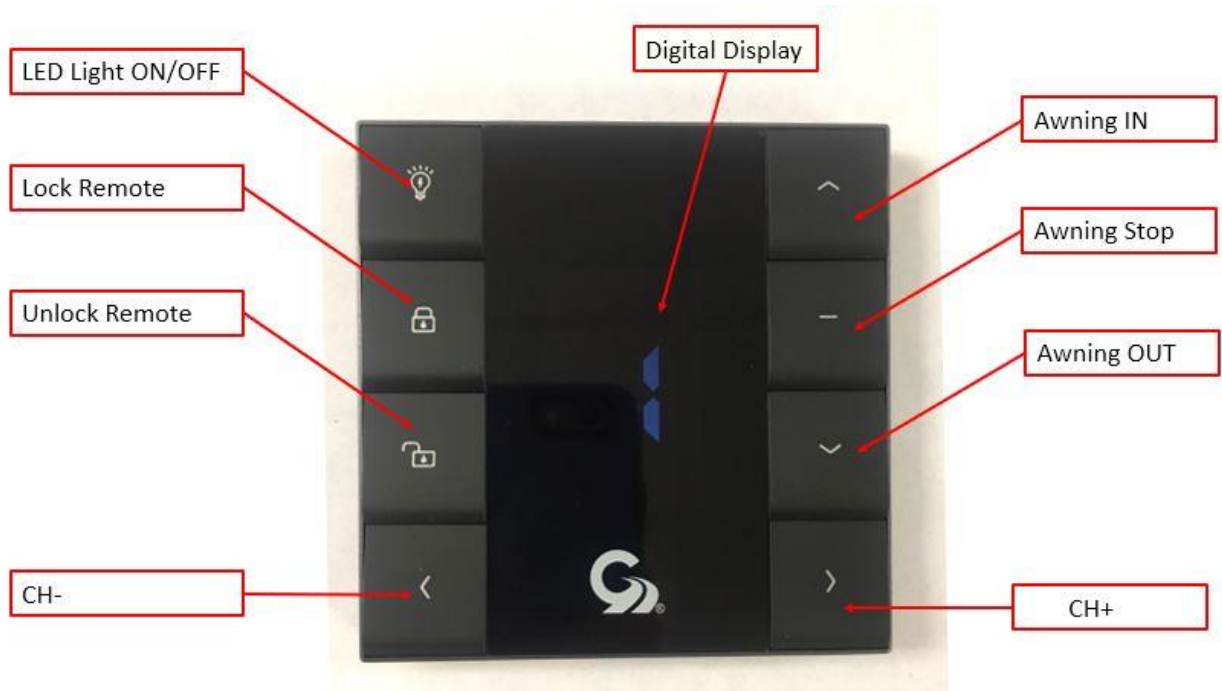

Fig.8
The 98GC2763B is a Multichannel RF transmitter, powered by two 3v Lithium batteries (CR2430) designed to control up to 20 awnings. See figure 8 for description of each pad.
- Press the **IN** button (Fig.8) on the REMOTE DEVICE being programmed. The Green LED on the motor controller will extinguish.